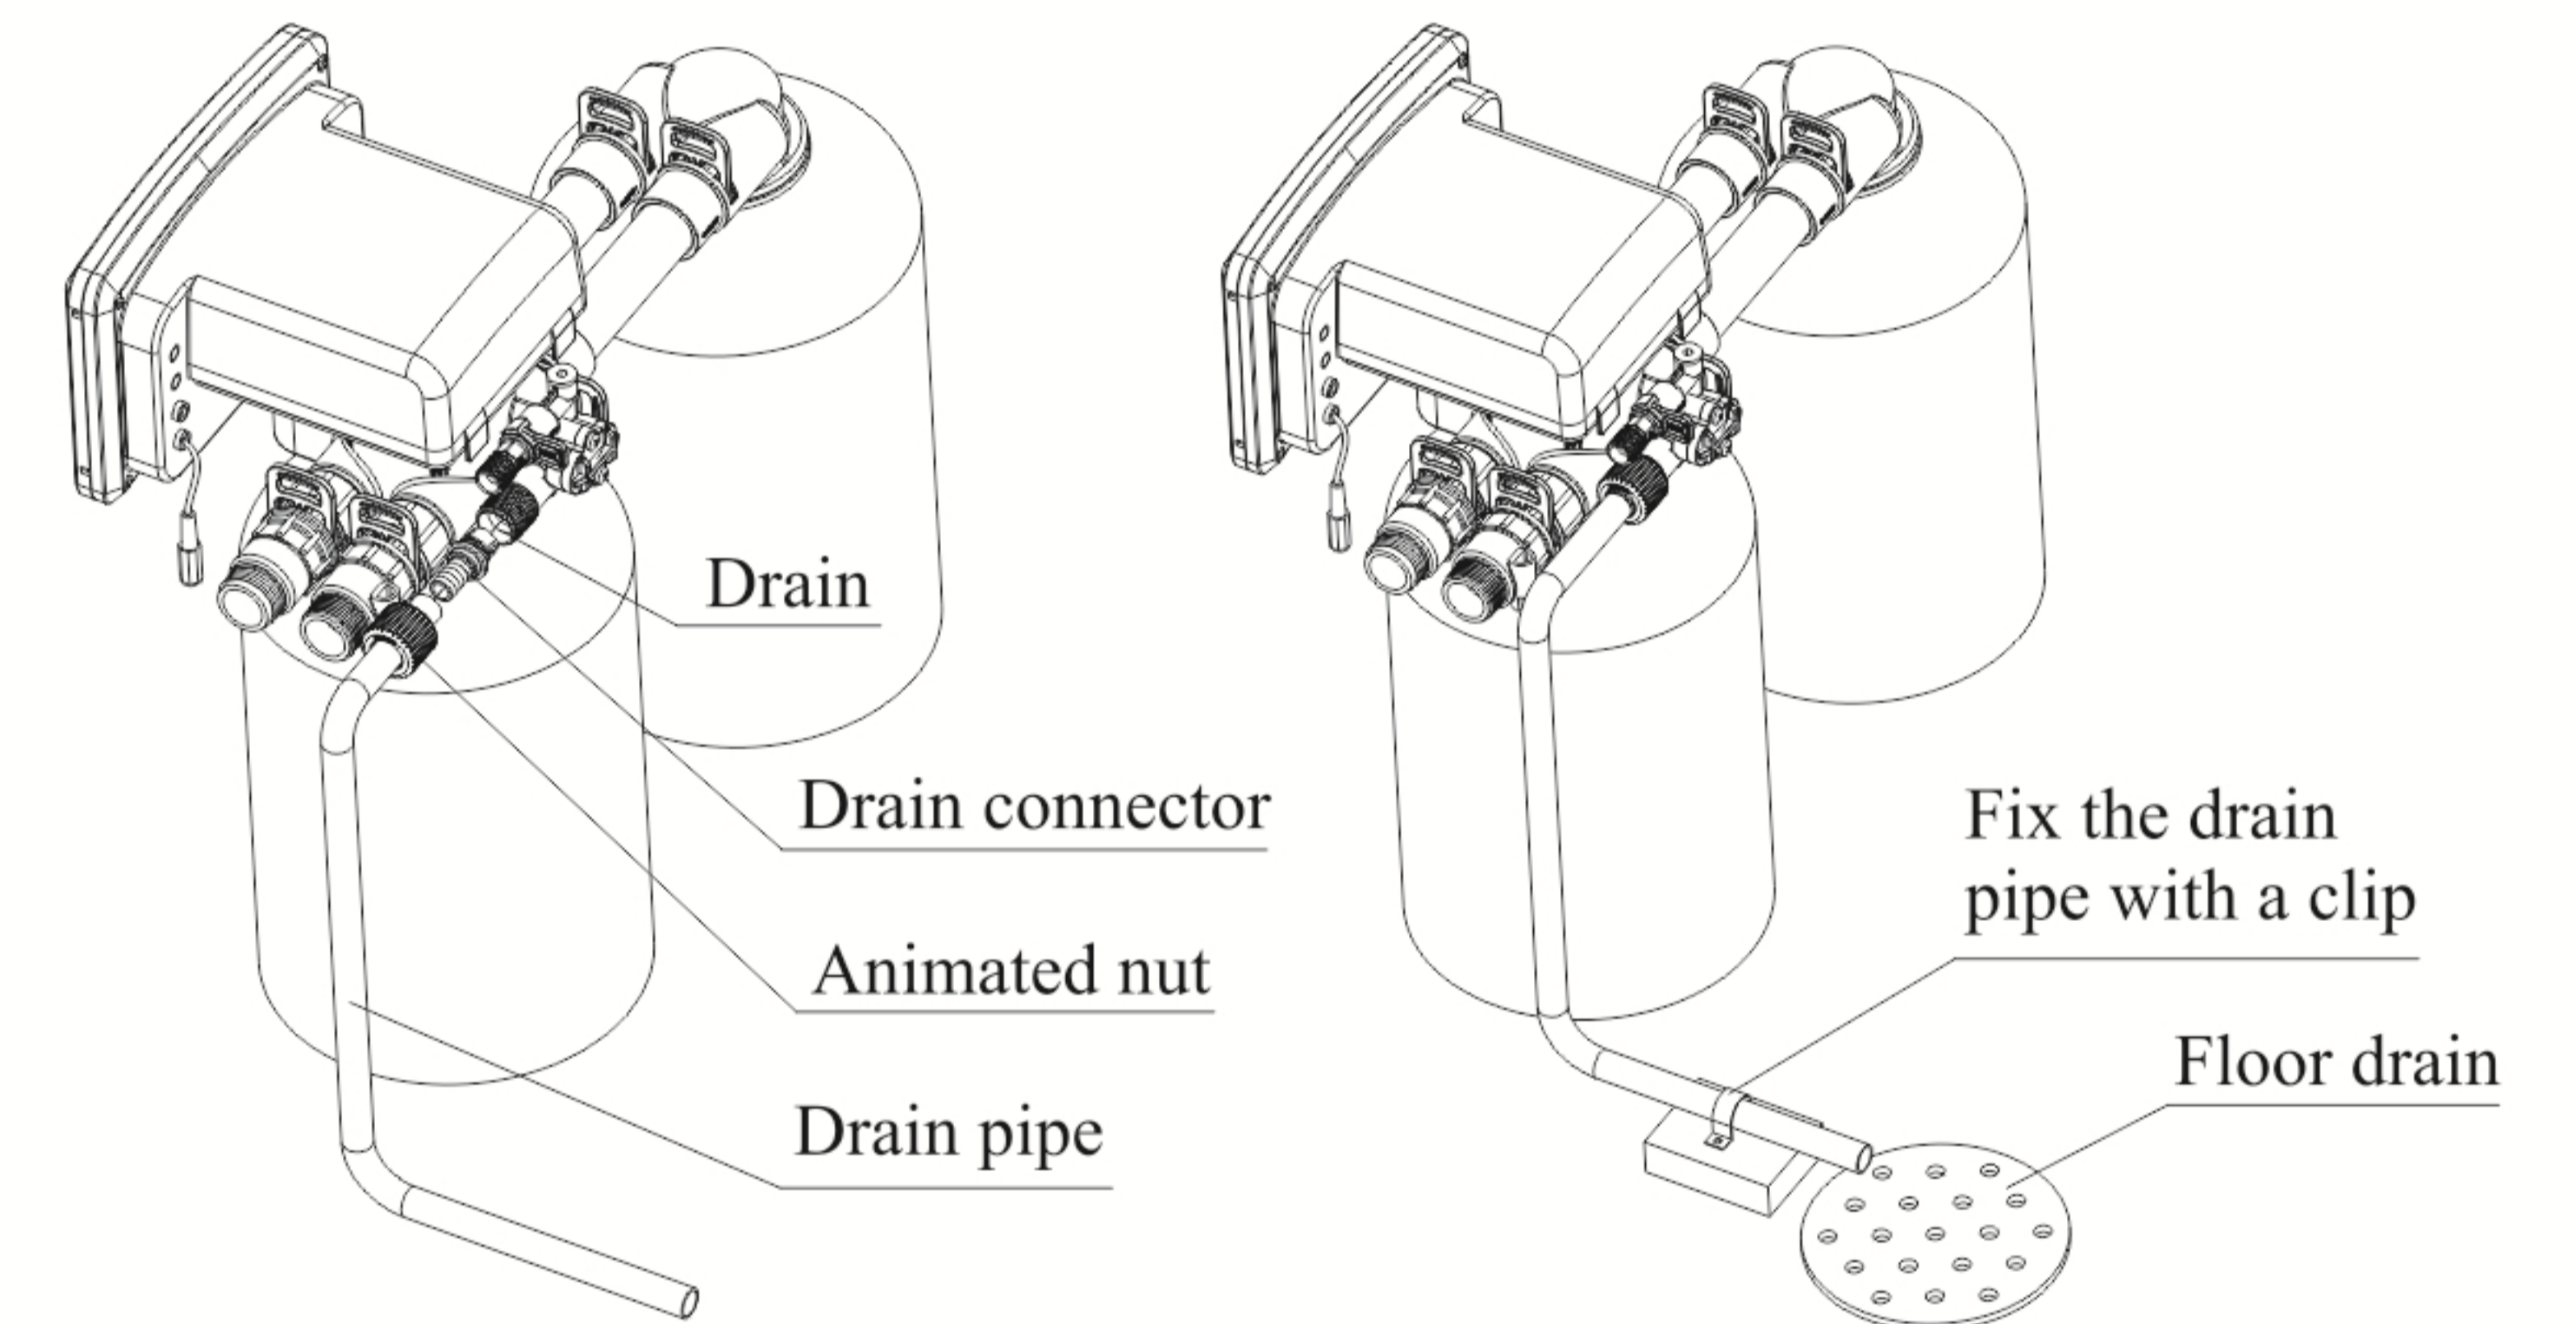
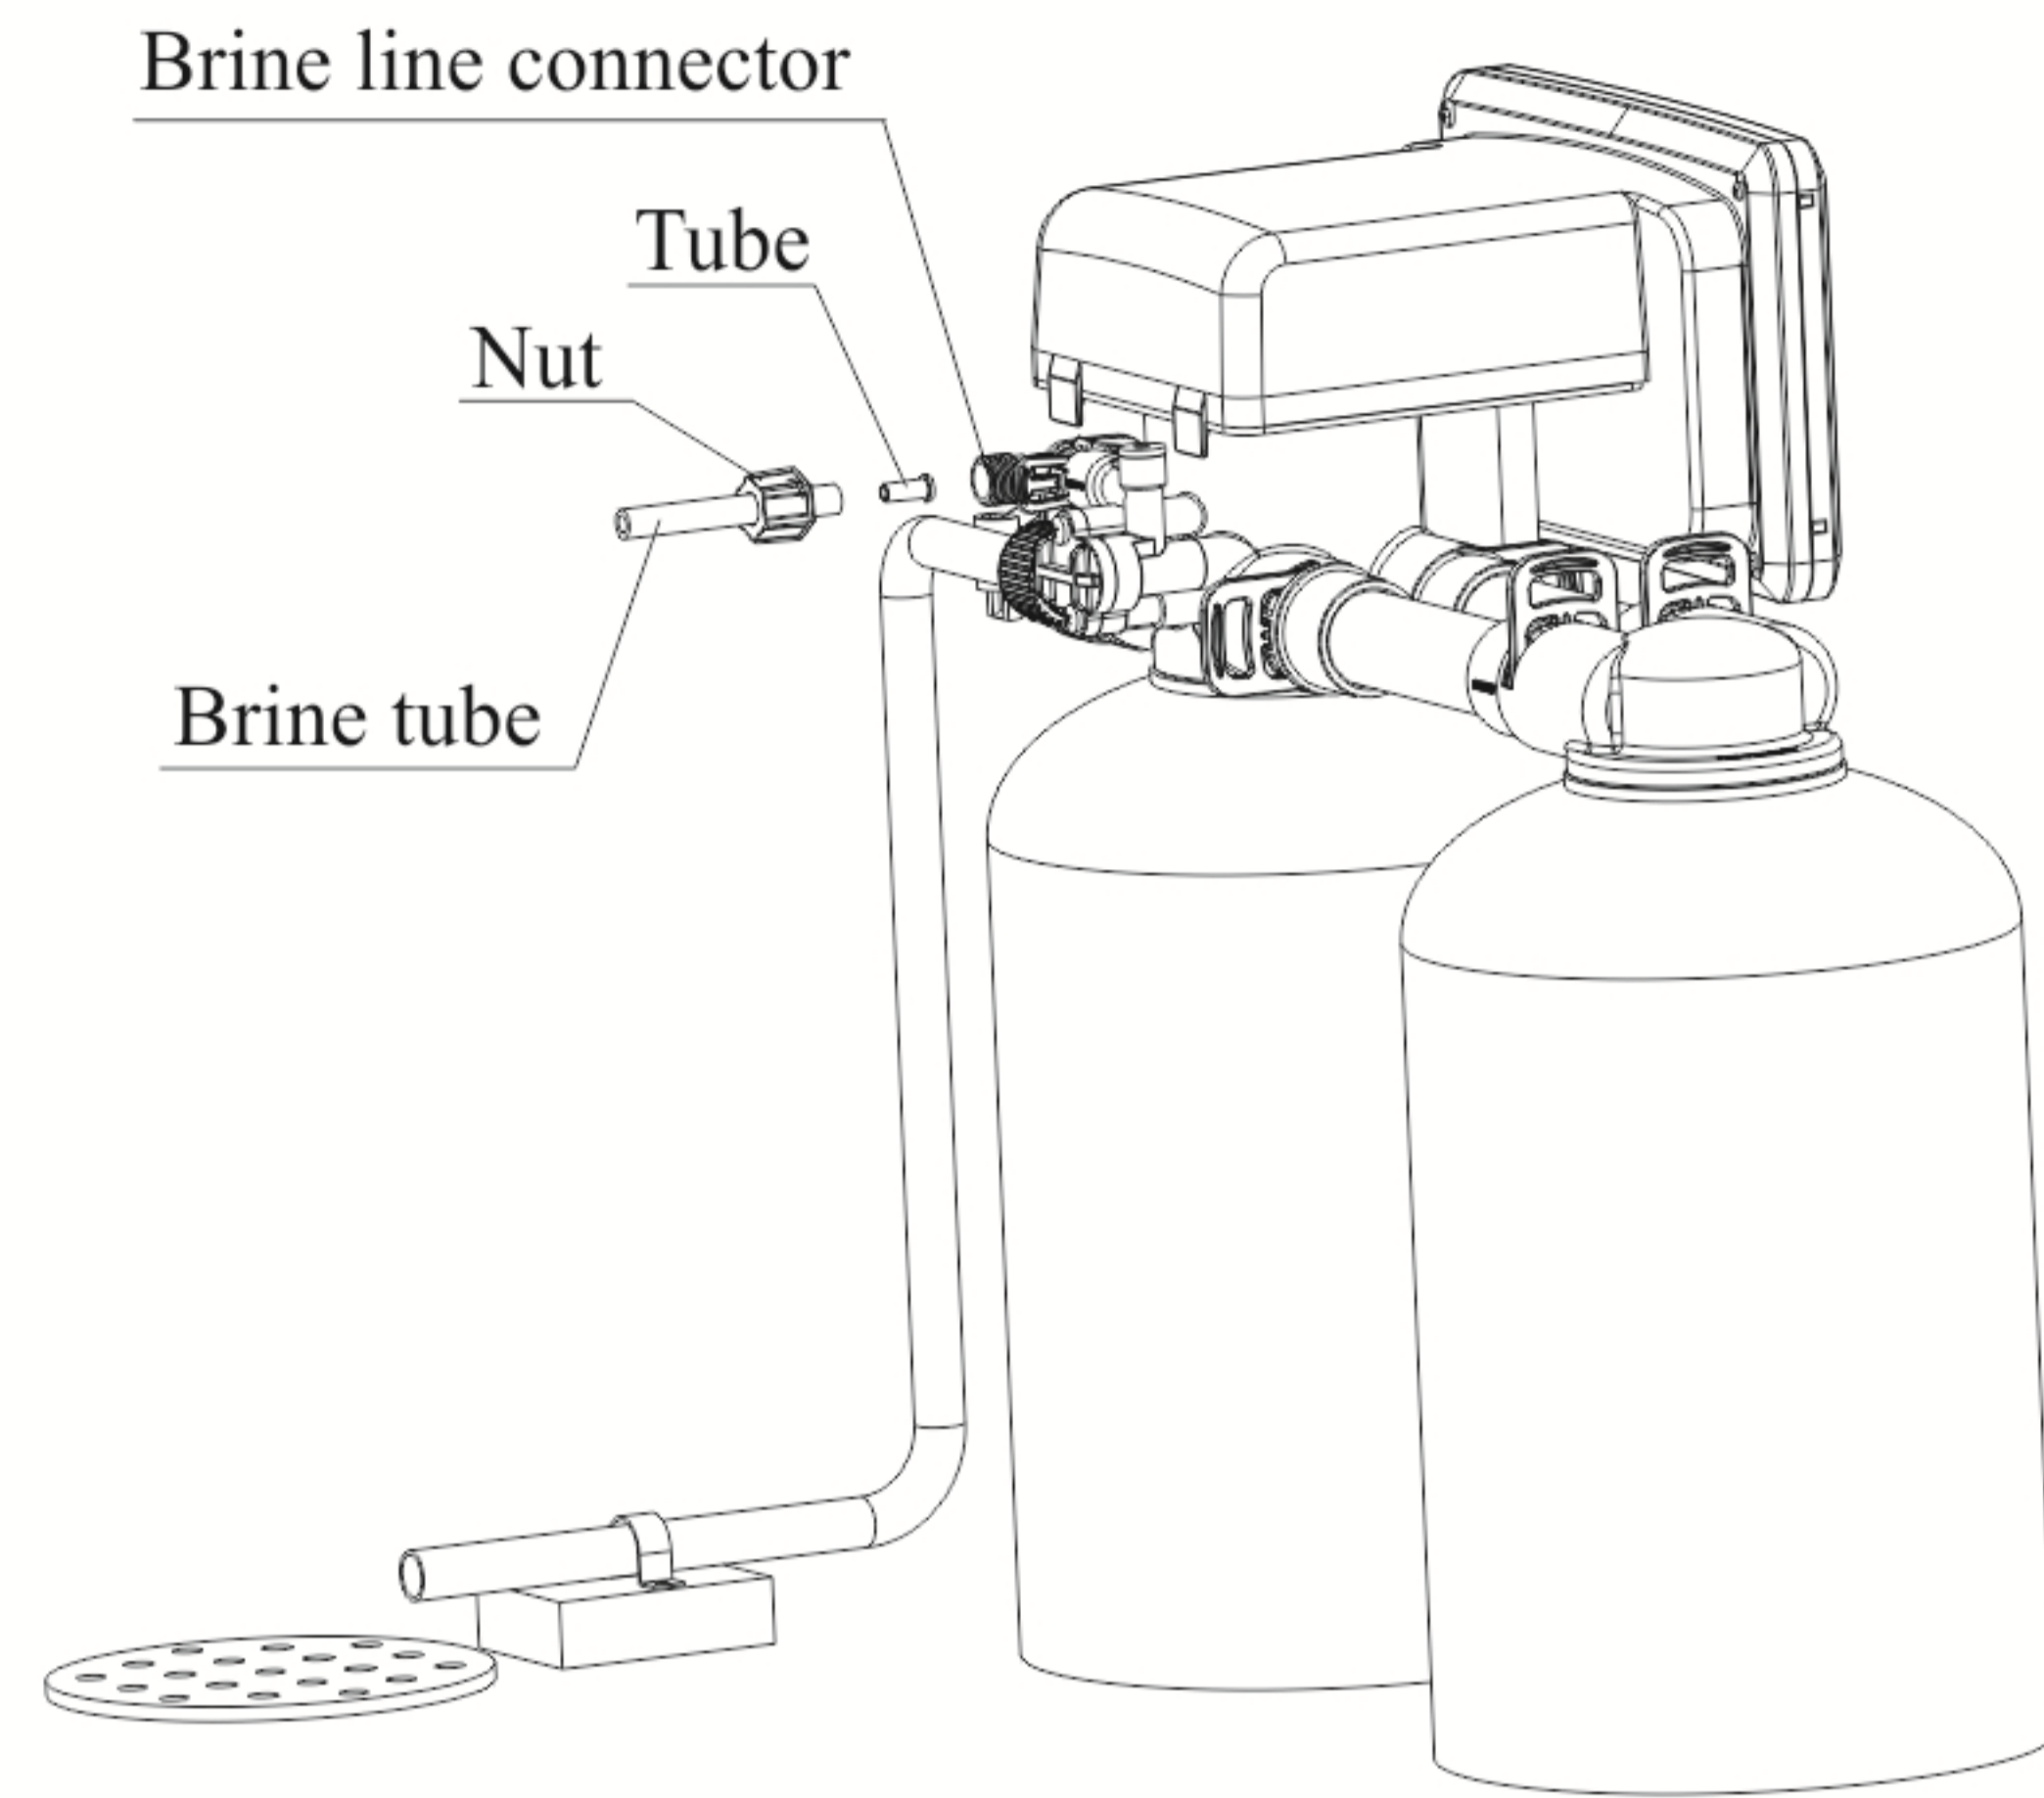

Figure 6
Figure 7
As Figure 6 shows, insert one end of the drain flexible pipe into the drain connector; tighten the connector and drain outlet with animated nut; put the other end of the drain flexible pipe to the floor drain and fix it.
- Be sure not connect drain with sewer directly, and leave a certain space between them (as Figure 6 shows), to avoid waste water being absorbed to the water treatment equipment.
⑤ Install Brine tube
- a. As Figure 7 shows, slide brine tube hose connector over end of brine tube.